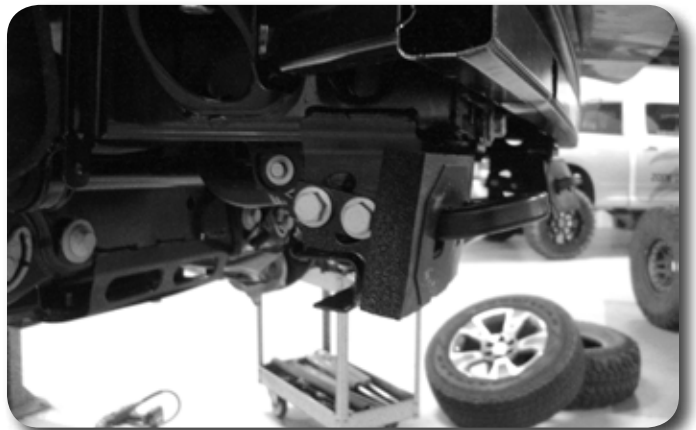

Figure 16
46. Remove the front tow hooks and flip the tow hooks over and reinstall them with the hardware going from the outside in. Torque bolts to 60 ft-lbs. Reinstall foam covers. See Figure 16